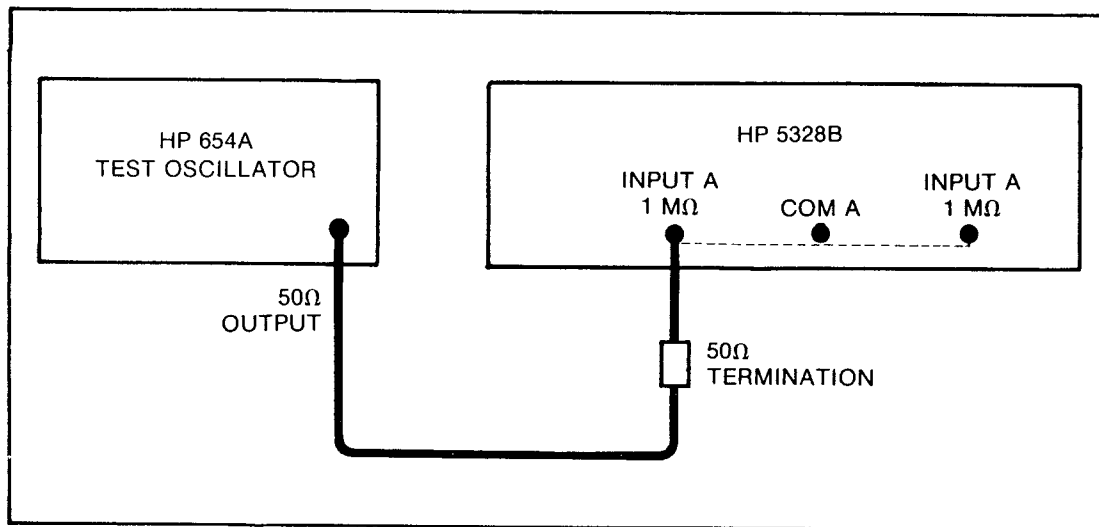

Figure 4-9. Channel B Frequency Response and Sensitivity Test Setup, 10 Hz to 10 MHz
- 1) Set up equipment for this test as shown in Figure 4-9.